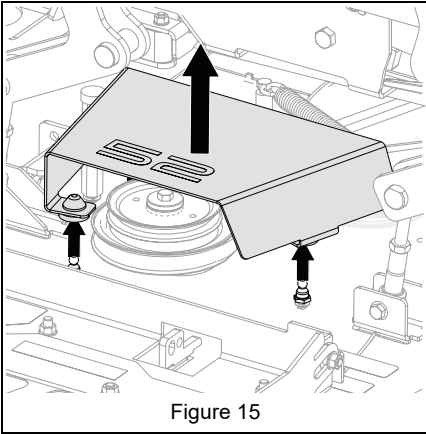

Figure 15
2. Remove belt cover. Retain for operation without bagger. See Figure 15.